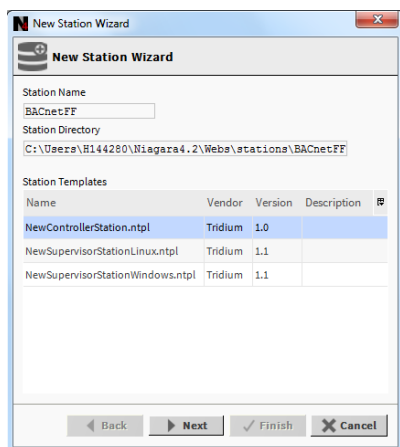

Figure 10: New Station Wizard Window
- After clicking 'New Station', it opens 'New Station Wizard' window. (Refer to Figure 10)